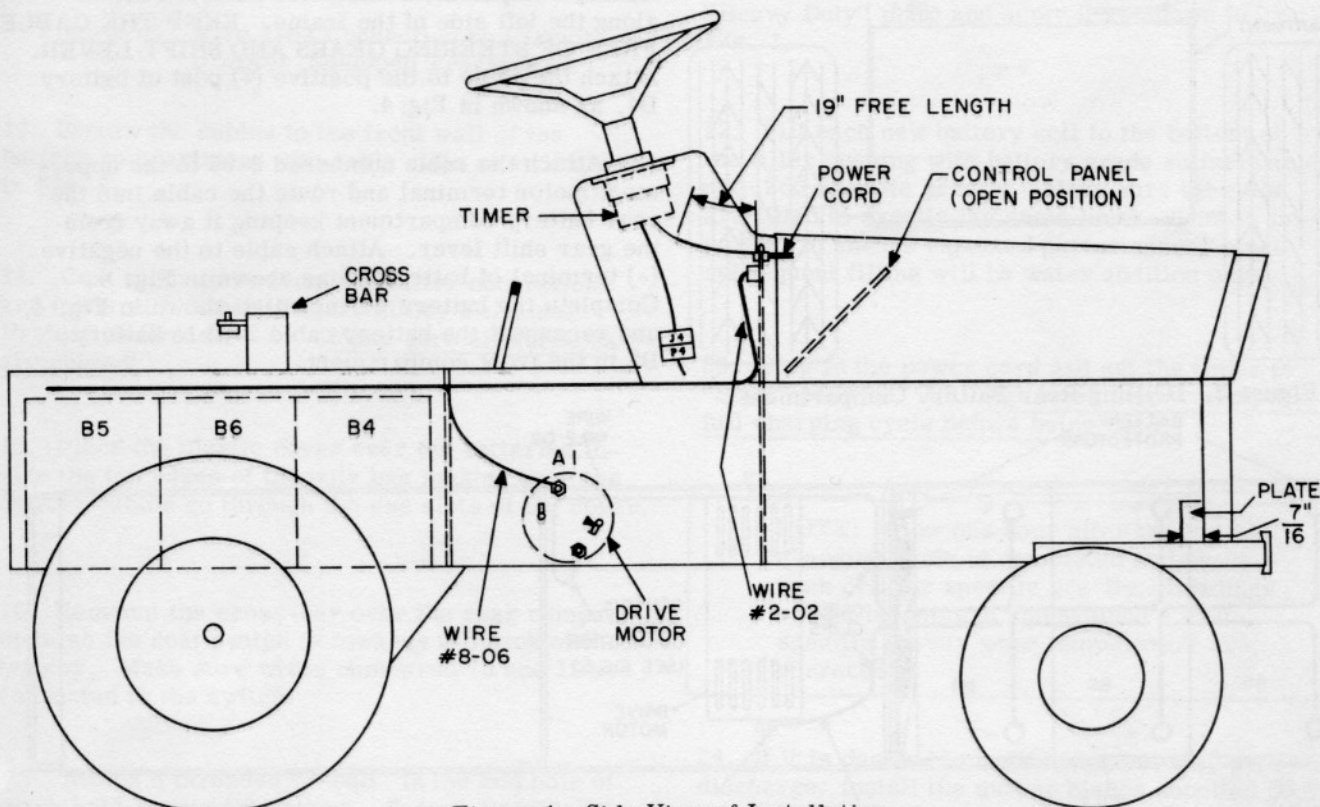
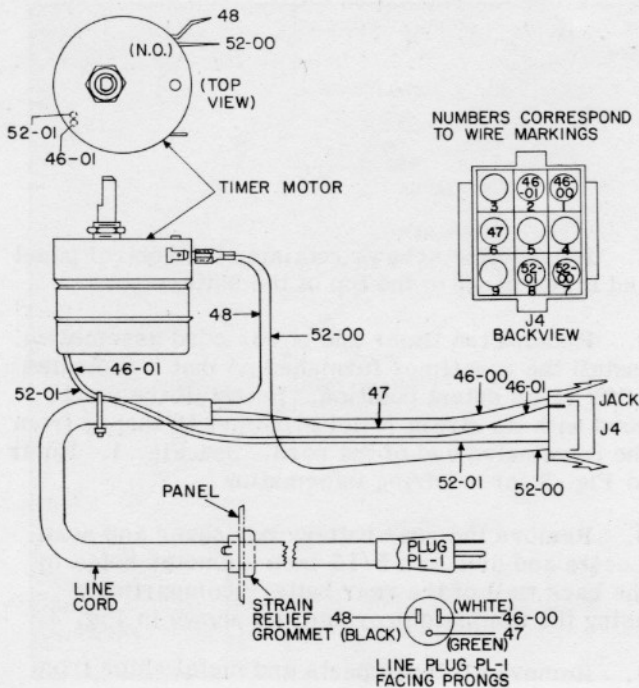

Figure 1. Side View of Installation
Figure 2
2. Remove the timer and power cord assemblies. Install the new timer furnished so that it indicates "Off" in its detent position. Reinstall the power cord with its strain relief grommet 19 inches from the terminated end of the cord. See Fig. 1. Refer to Fig. 2 for rewiring information.